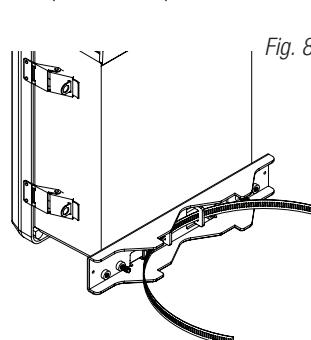

Fig. 9
3. Attach the bottom bracket to the enclosure by inserting bolts through the flange of the enclosure and into the bracket, tightening bolts with a 7/16" hex socket (Fig. 9, pg. 9).
5. Mount enclosure onto the top bracket by inserting bolts through flange of the enclosure and into the bracket, tightening bolts with a 7/16" hex socket (Fig. 9, pg. 9).